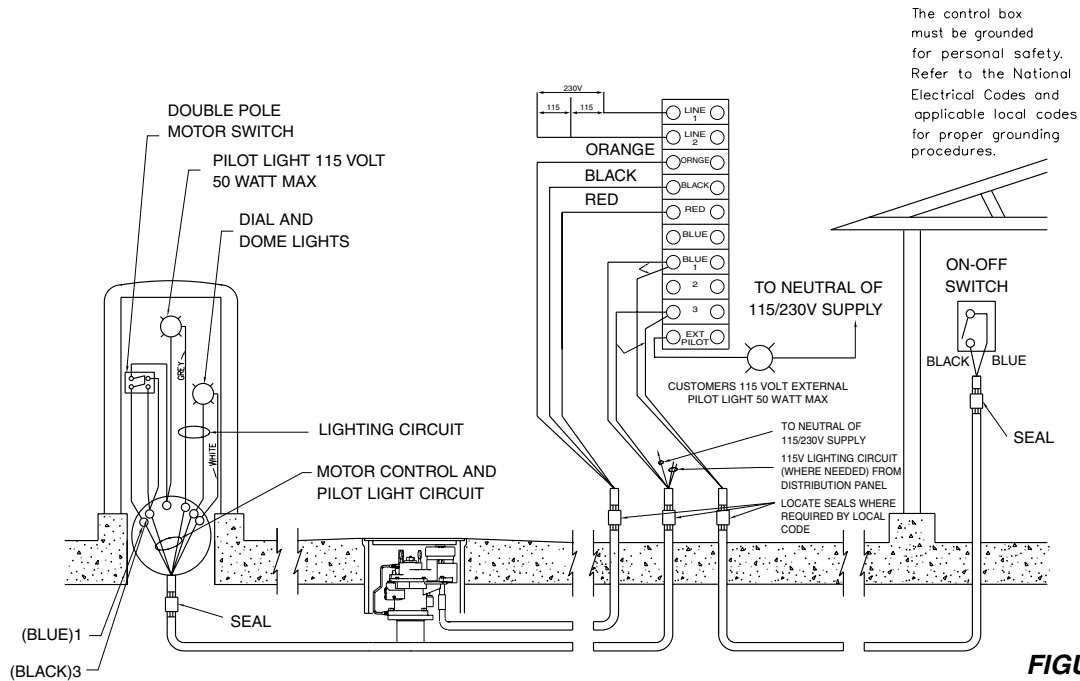

FIGURE 3
The motor control box must be located away from the fueling area in a nonhazardous location (see Fig. 3).
3. Connect wires from terminal Blue-1 and terminal 3 in motor control box to dispenser control switches (if dispensers are used) and “on-off” switch at loading rack as shown in Fig. 3.
5. If an external pilot light is desired to indicate when the submerged pump is operating, wire as shown in Fig. 3, 4 or 5. Should this light continue to burn when all switches at dispensers and loading racks are off, this indicates that one of the dispenser switches is out of adjustment. On installations with no external pilot light, the submerged pump should be checked to make sure it is not operating when all switches are turned off.